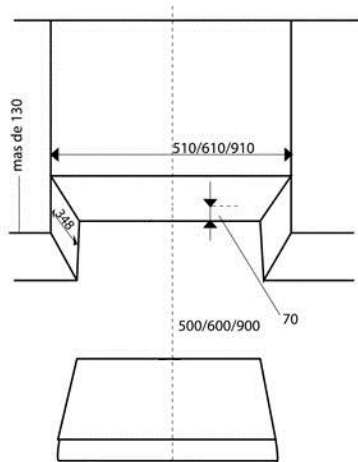

FIG . 5
1. As shown (Fig. 5), drill a hole 133 mm in diameter in the cabinet check the position of the socket and consider whether the appliance's power cord reaches the outlet.